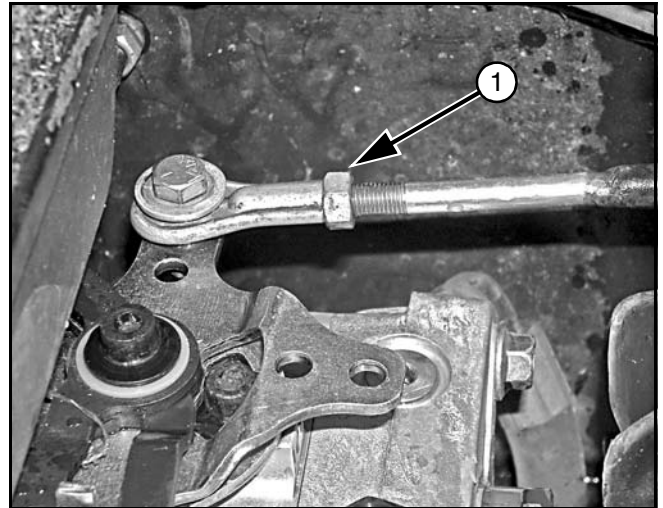

Figure 10. Jam Nut on Linkage Rod, Left Pump
3. Loosen jam nut (1) on linkage rod as shown in Figure 10.